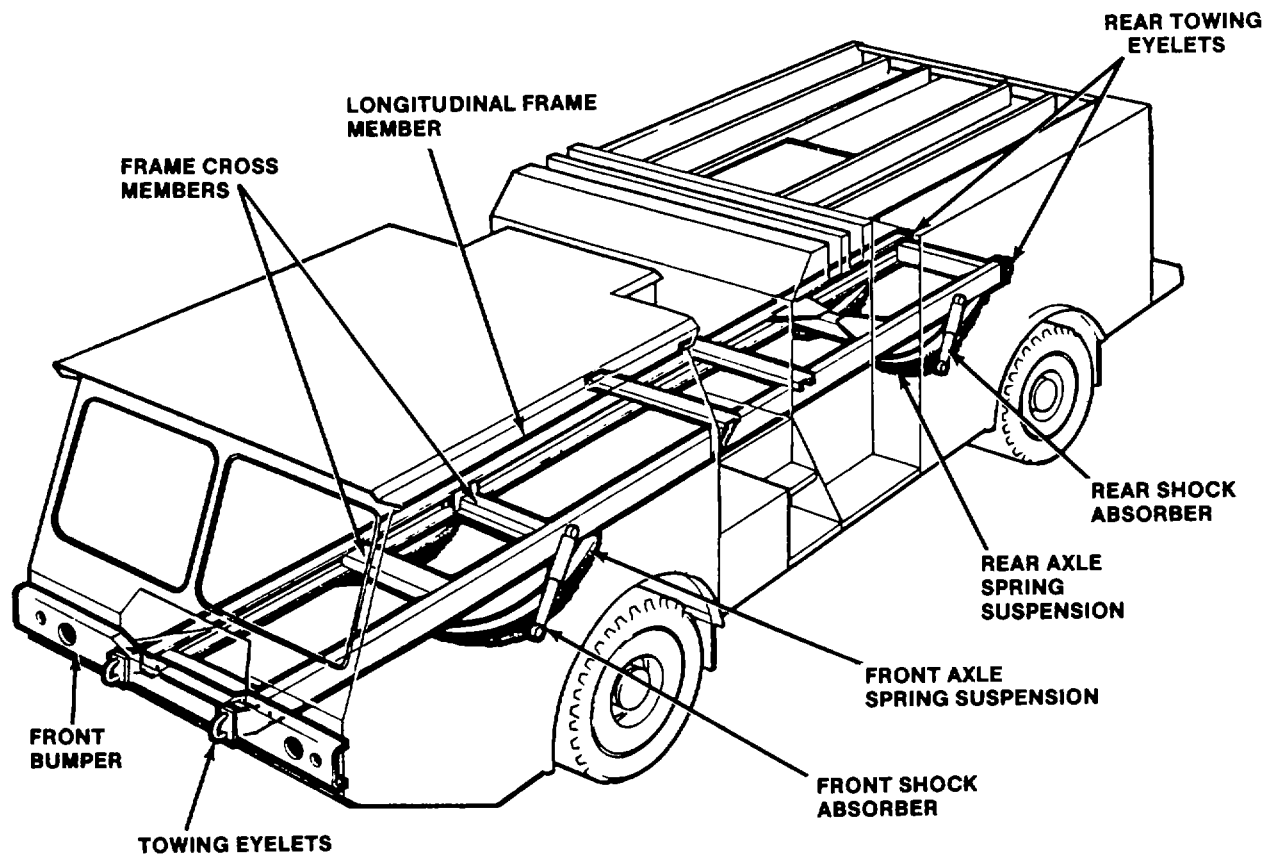

Figure 1-2 Frame and Suspension Components
(1) The frame consists of two side members and seven cross members bolted together. The frame serves as a mounting base for the engine, drive train, fire pump, cab, pump body, and hose body. The frame is flexible to prevent heavy stress on components during travel in rough terrain.
(2) The front bumper is mounted directly to the side frames together with two eyelets for towing purposes, (see fig. 1-2). Rear towing eyelets are also attached to the frame. The suspension leaf springs are attached to the frame with shackles and spring pins. The axles and springs are assembled with two U-bolts at each location. Spring action is dampened with heavy duty shock absorbers.